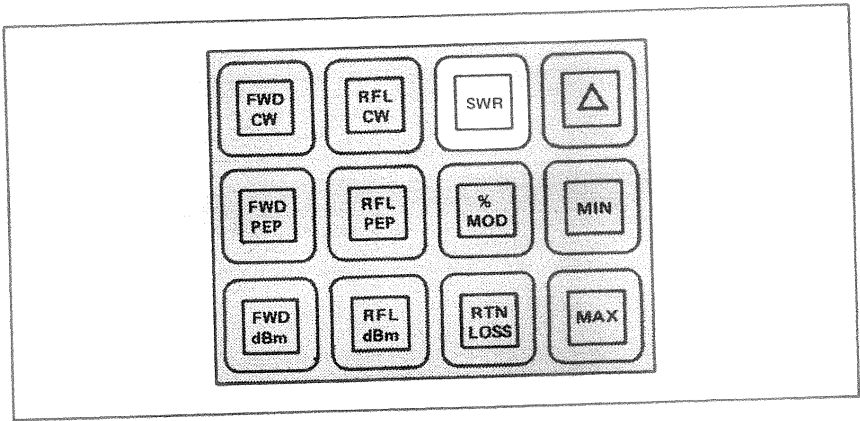

Figure 3-3. Standing Wave Ratio (SWR).
c. Reading SWR. (Figure 3-3.) Two elements are required for this mode and they must have a 10 to 1 power range ratio. Press the SWR key momentarily. If the average forward power is between 10% and 120% of full scale and the average reflected power is less than 120% of the reflected element range, SWR will be displayed. If any of the above conditions are not met, an error message will be displayed. Two arrows pointing to the right — or "greater-than" symbols — indicate over-range, while two left pointing arrows — or "less-than" symbols — indicate under-range or too little power. Refer to Table 3-1.